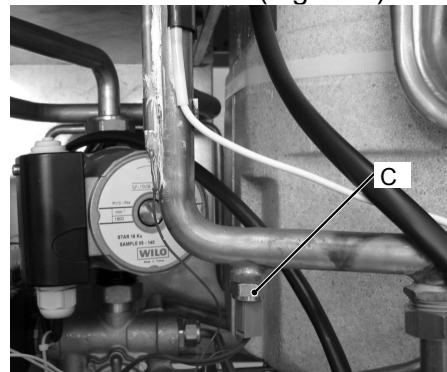

Figure 3
- 3) *Remove of the c.h. NTC:* Remove the electric connector of the NTC probe C and unscrew it (Figure 3).